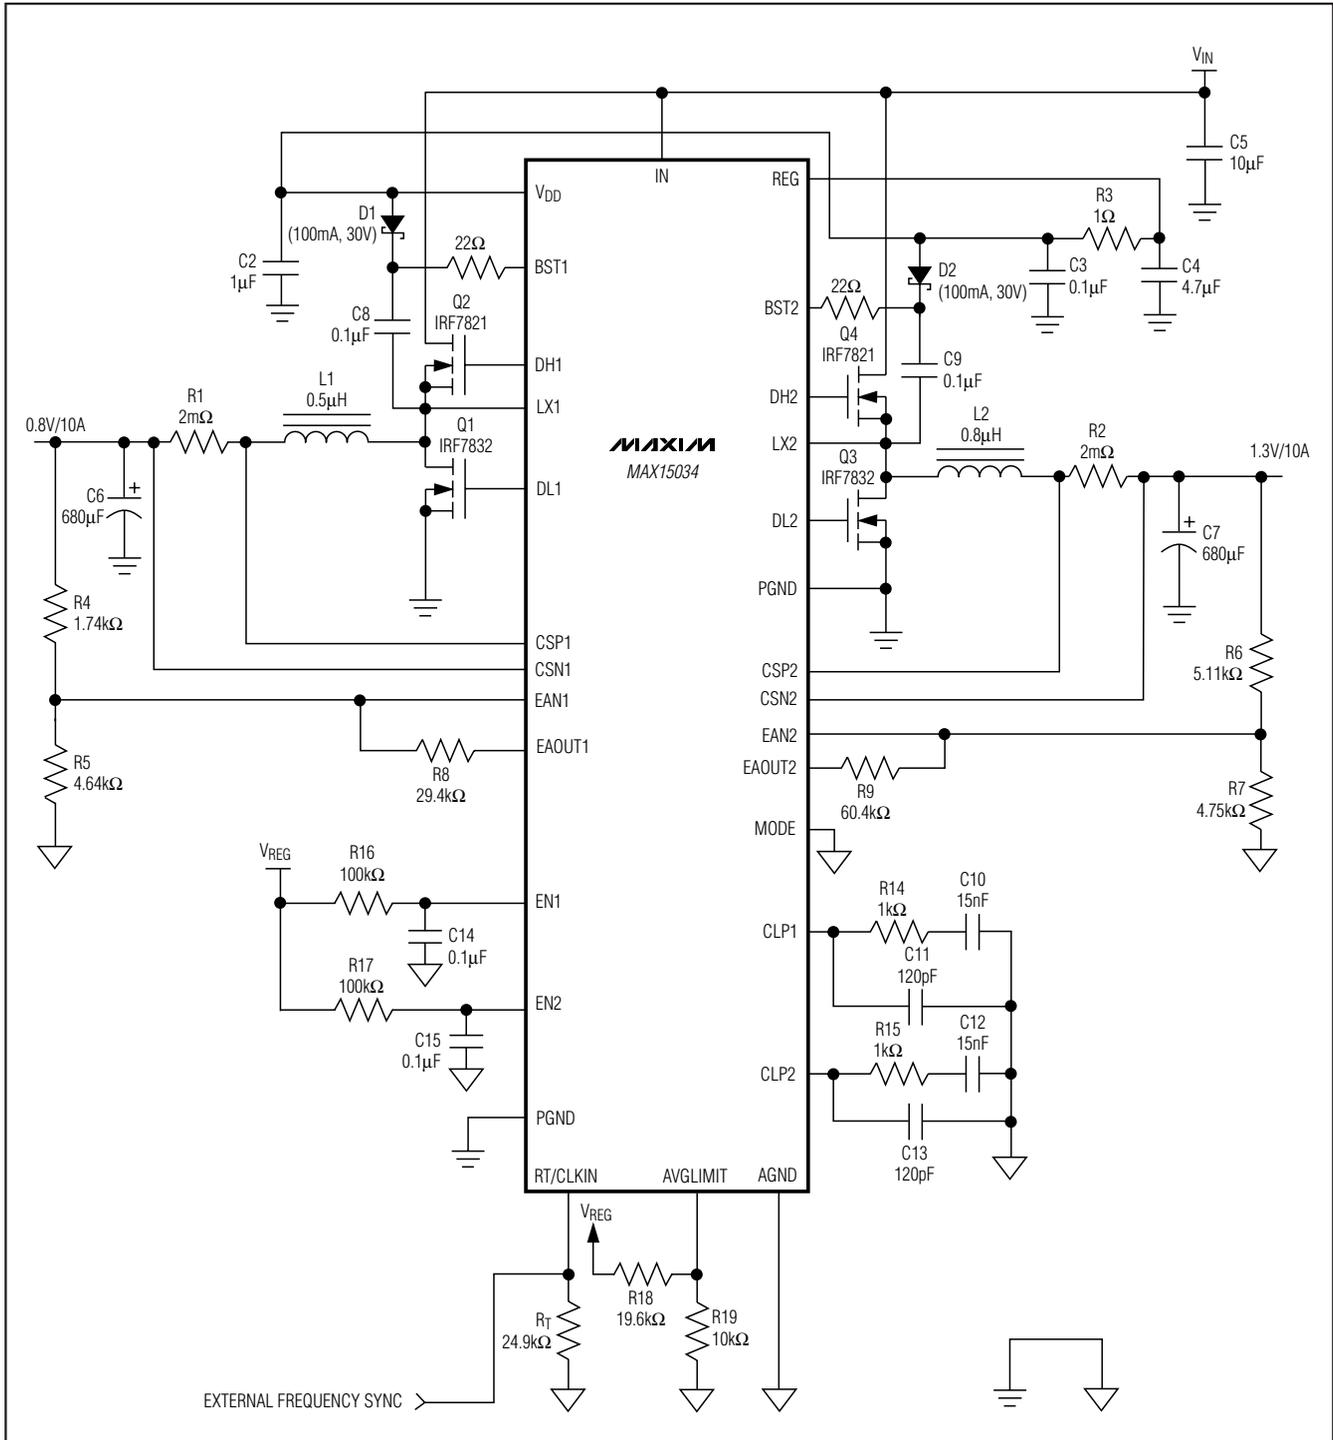
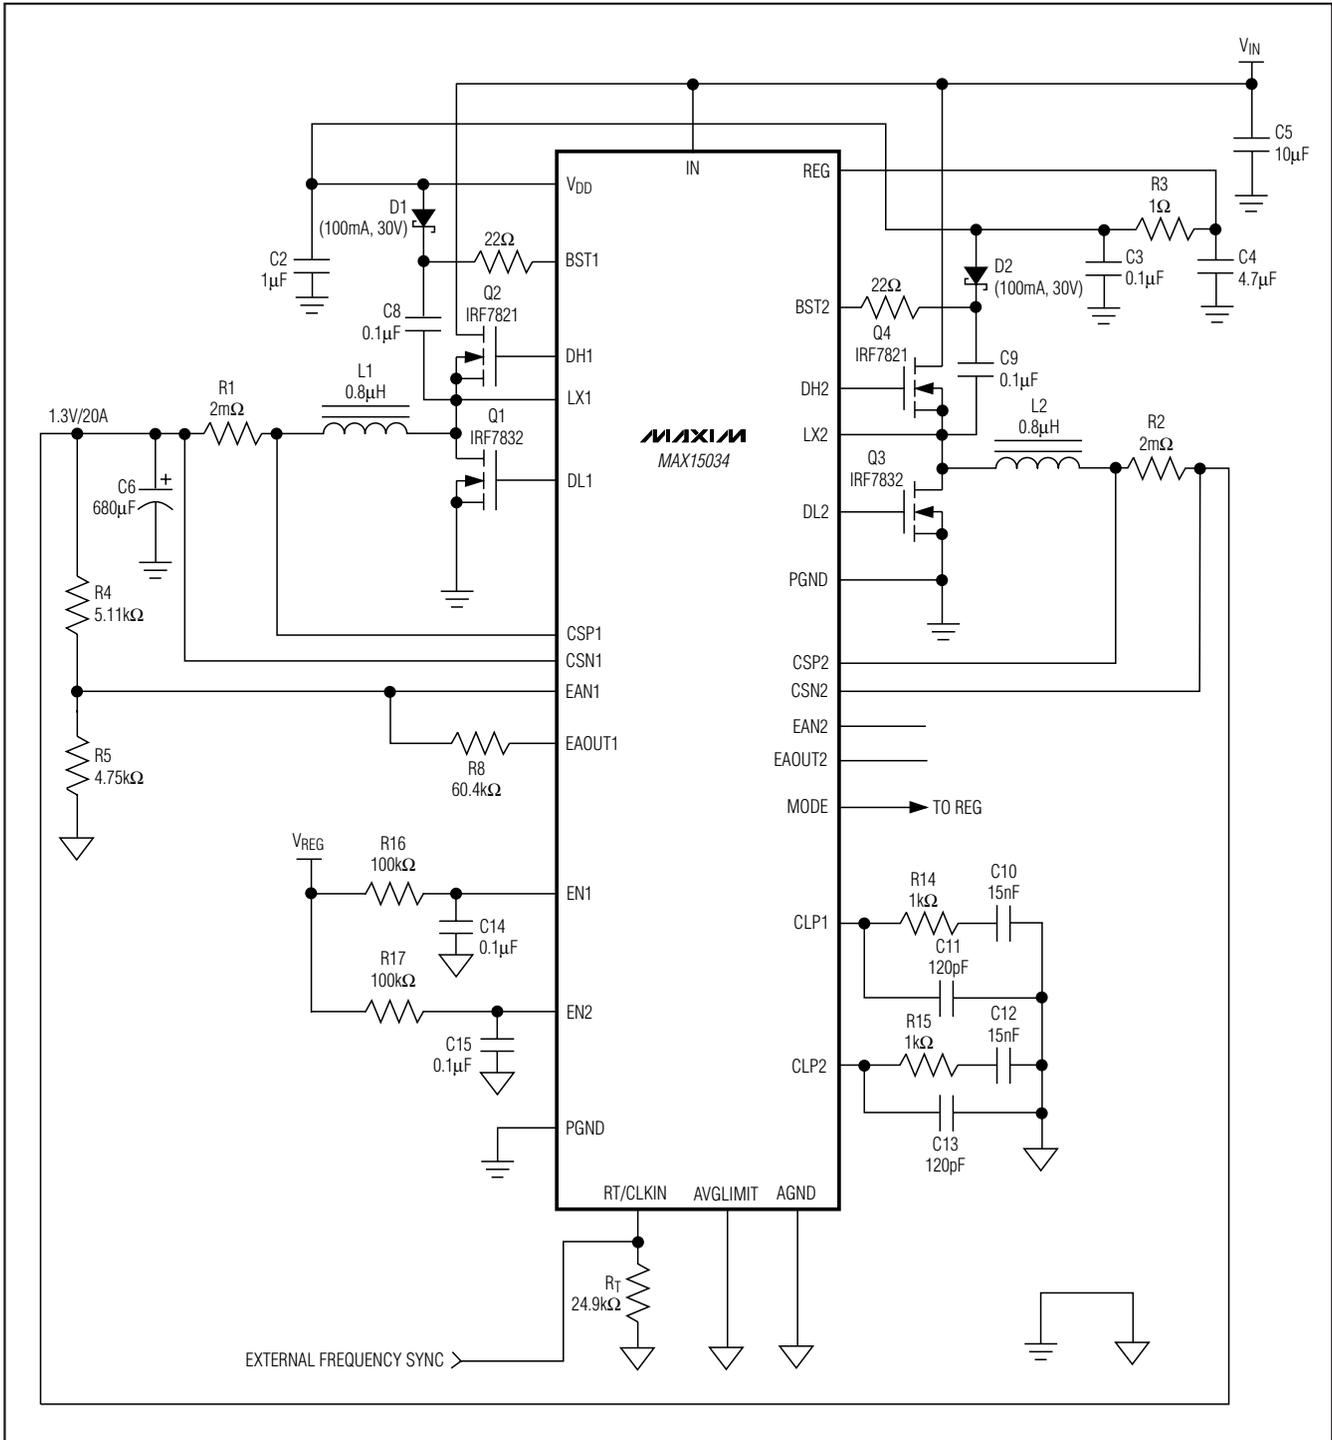

Figure 6. Dual-Output Buck Regulator
Figure 7. Dual-Phase, Single-Output Buck Regulator
where IIN is the quiescent supply current into IN (4mA, typ), QGQ1, QGQ2, QGQ3, QGQ4 are the total gate charges of MOSFETs Q1 through Q4 at VGS = 5V (see Figure 6), and fSW is the switching frequency of each individual phase.
BST1 and BST2 supply the power for the high-side MOSFET drivers for output 1 and output 2, respectively. Connect BST1 and BST2 to VDD through rectifier diodes D1 and D2 (see Figure 6). Connect a 0.1μF ceramic capacitor between BST_ and LX_.
Minimize the trace inductance from BST_ and VDD to the rectifier diodes, D1 and D2, and from BST_ and LX_ to the boost capacitors, C8 and C9 (see Figure 6). This is accomplished by using short, wide trace lengths.
The compensation network at the current-error amplifiers (CLP1 and CLP2) provides an inherent soft-start of the output voltage. It includes (R14 and C10) in parallel with C11 at CLP1 and (R15 and C12) in parallel with C13 at CLP2 (see Figure 6). The voltage at the current-error amplifier output limits the maximum current available to charge the output capacitors. The capacitor at CLP_ in conjunction with the finite output-drive current of the current-error amplifier yields a finite rise time for the output current and thus, the output voltage.
An internal oscillator generates the 180° out-of-phase clock signals required for both PWM modulators. The oscillator also generates the 2VP-P voltage ramps necessary for the PWM comparators. The oscillator frequency can be set from 200kHz to 2MHz by an external resistor (RT) connected from RT/CLKIN to AGND (see Figure 6). The equation below shows the relationship between RT and the switching frequency:
cycle is less than 50%, choose high-side MOSFETs (Q2 and Q4, Figure 6) with a moderate $R_{DS(ON)}$ and a very low gate charge. Choose low-side MOSFETs (Q1 and Q3, Figure 6) with very low $R_{DS(ON)}$ and moderate gate charge. The driver block also includes a logic circuit that provides an adaptive nonoverlap time (30ns typ) to prevent shoot-through currents during transition. Figure 7 shows the dual-phase, single-output buck regulator.
where I_{MAX} is the full load current of the regulator. V_{OUT} is the output voltage of the same regulator and C_{IN} is C5 in Figure 6. The ESR of the input capacitors wastes power from the input and heats up the capacitor. Reducing the ESR is important to maintain a high overall efficiency and in reducing the heating of the capacitors.
where I_{LOAD_STEP} is the step in load current and $t_{RESPONSE}$ is the response time of the controller. Controller response time depends on the control-loop bandwidth. C_{OUT} is C6 and C7 in Figure 6.